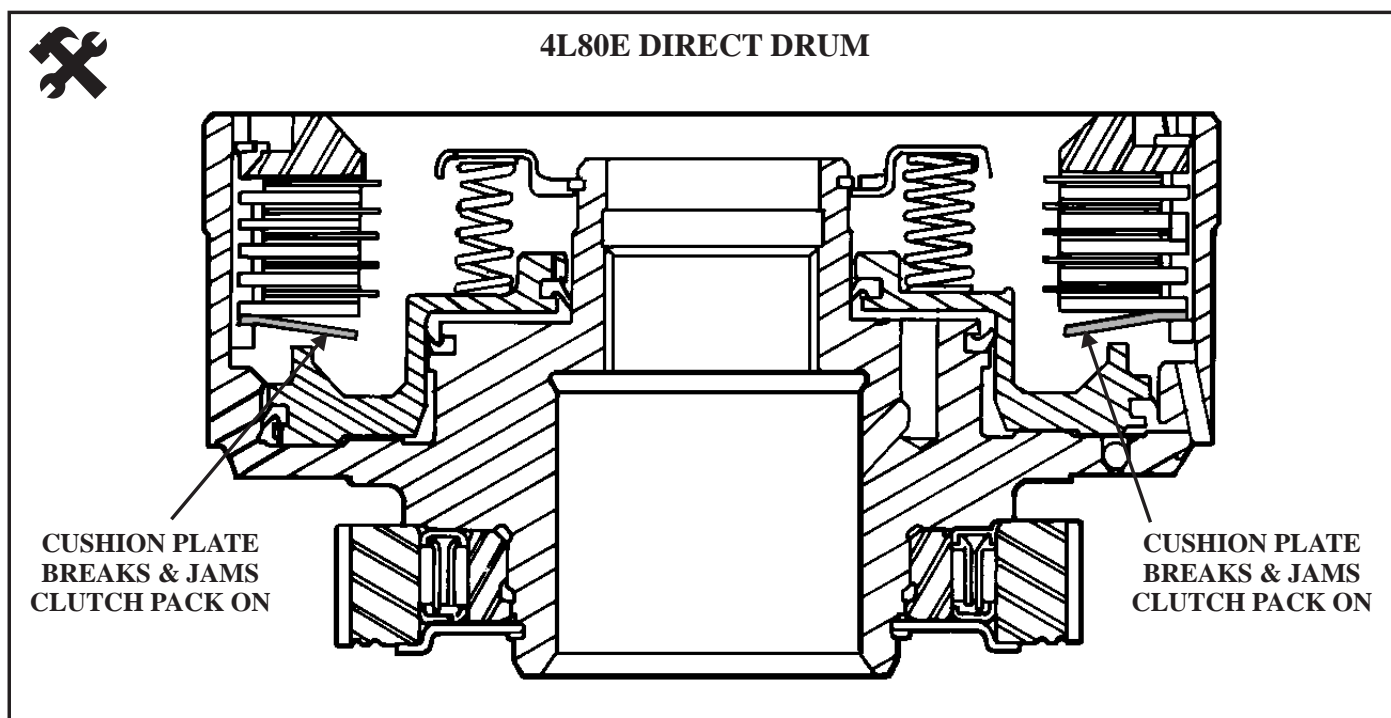

Figure 133
- The dished plate in the direct clutch pack can break and jam the clutch on, use the updated cushion plate, or the plates are welded together, Refer to Figure 133. This will cause code 86 or incorrect gear ratio codes to set.